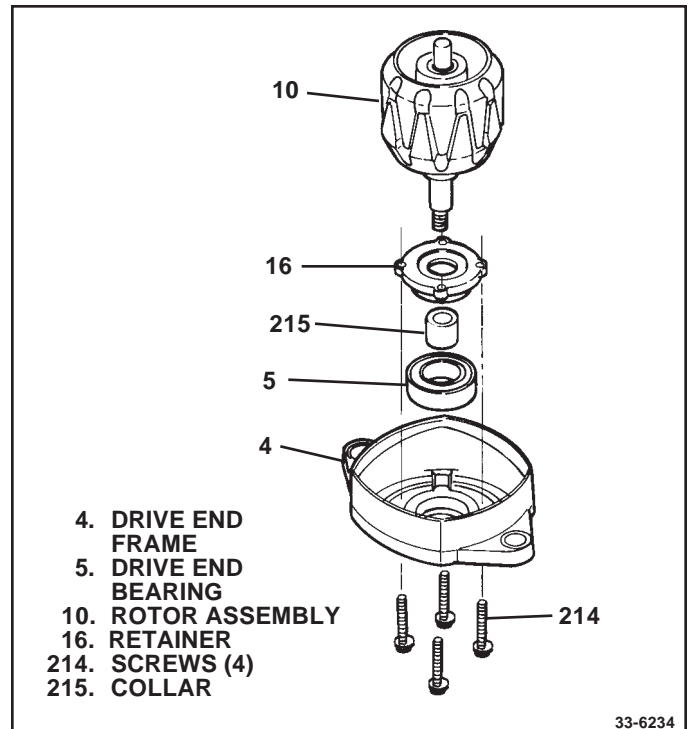

Figure 24. Disassembly of Drive End Components
13. If bearing inner race (3) appears to be worn or rough, remove from rotor shaft with a suitable puller.
14. To replace rotor (10) or drive end bearing (5), (See Fig. 24) remove 4 bearing retainer attachment screws (214) from outside of housing (4). Lift rotor with bearing from housing, then pull bearing off of rotor shaft. If inside collar (215) appears rough or damaged, pull collar from shaft.
15. To remove mounting hinge bushing (17) from lug on rectifier end housing (1), Press bushing from housing using arbor press with suitable tool.